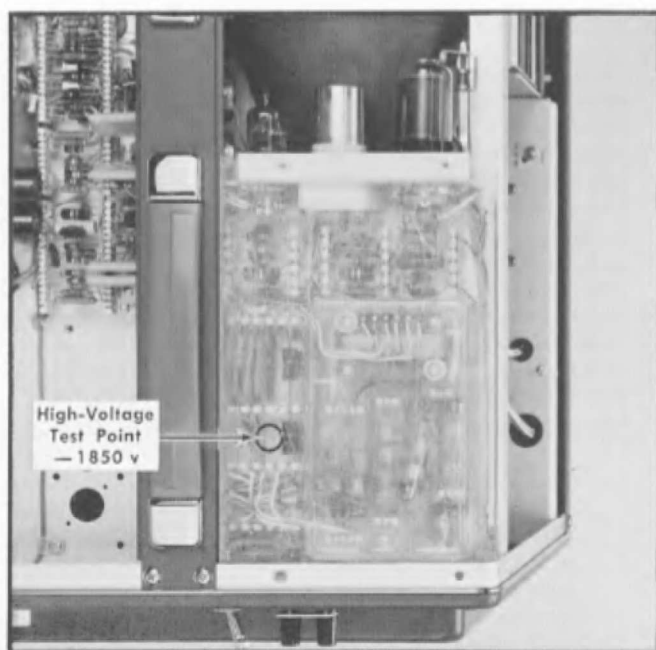

Fig. 5-3. High-voltage test point location (top left rear view).
- a. Set the scale of the VOM to measure —1850 volts and connect the VOM between the high-voltage test point (see Fig. 5-3) and ground.